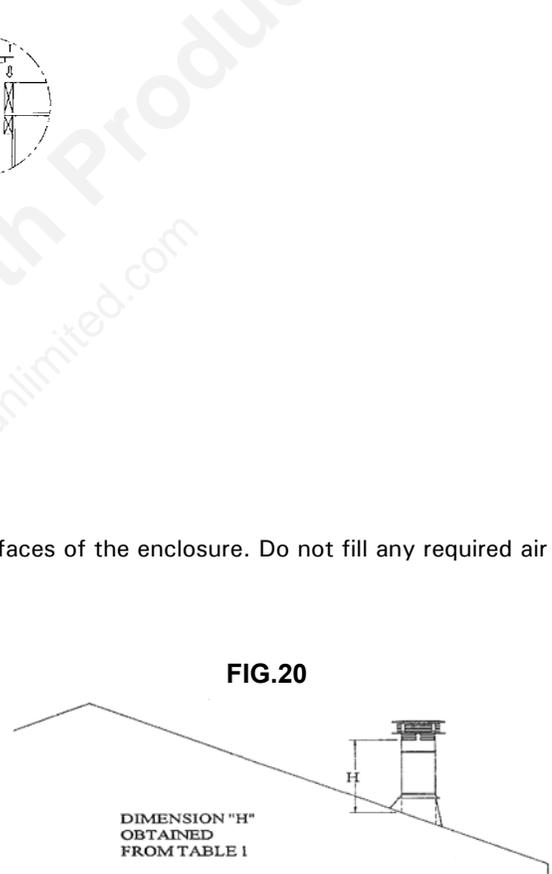

FIG.20
Step 5. Using tin snips, cut the Support Box from the top corners down to the roofline, and fold the resulting flaps over the roof sheathing. (Fig. 20). Before nailing it to the roof, run a bead of non-hardening mastic around the top edges of the Support Box, to make a seal between the Box and the roof. Clean out any combustible material from inside the Support Box.